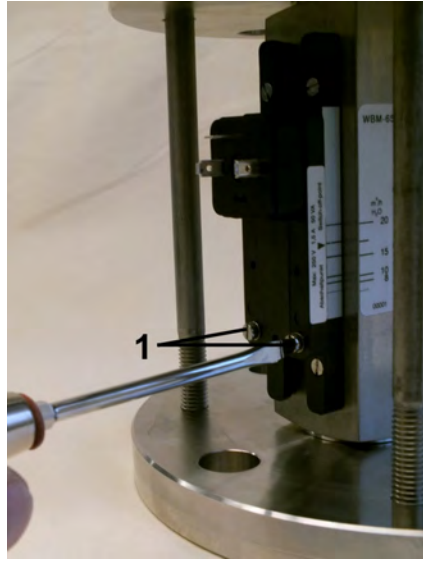

Fig. 75: Loosen set screws
- 3.** ➤ Using a flat-bladed screwdriver, loosen the set screws (Fig. 75/1) of the switch contact until it moves freely
12. ➤ Tighten the set screws (Fig. 75/1) observing the proper torque (Chapter 11.1 "Tightening torque" on page 83)